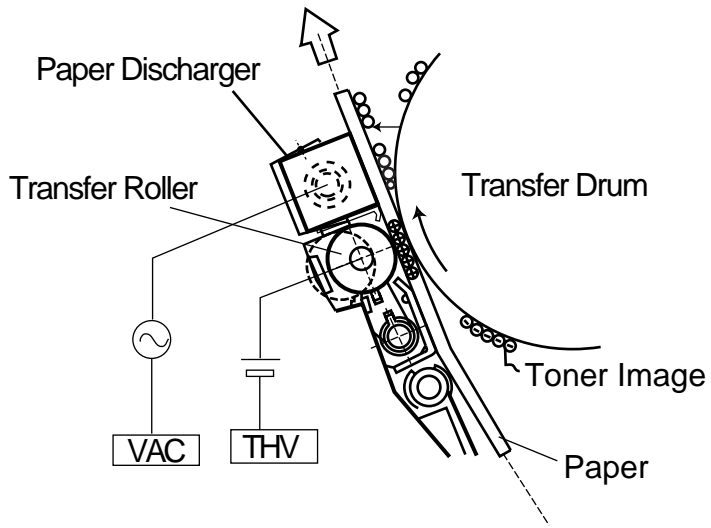

Fig.4-20
- ②. Transfer roller is normally separated from the transfer drum.
- ③. Transfer roller is positively biased by the power supply THV.
- ④. Transfer roller contacts to the transfer drum in the second transfer process.
- ⑤. Transported paper passes between the transfer roller and transfer drum.
(2). Process of Belt Cleaning (Fig.4-20)
- ① . Paper is transported as synchronizing with the transfer drum.
- ② . Transfer roller operates as synchronizing with the transported paper, and contacts with the transfer drum through the transported paper.
- ③ . Transported paper passes between the transfer roller and transfer drum.